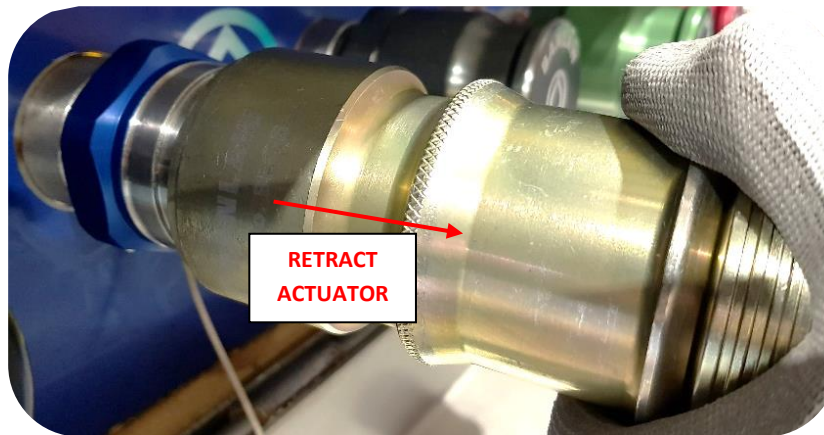

Figure 9 - Connecting the Coupling and Receiver
6. Manually retract the Actuator of the Evacuation Coupling, align the front recess of the Evacuation Coupling with the Receiver, and in one steady motion, push the Evacuation Coupling onto the Receiver – refer Figure 9.